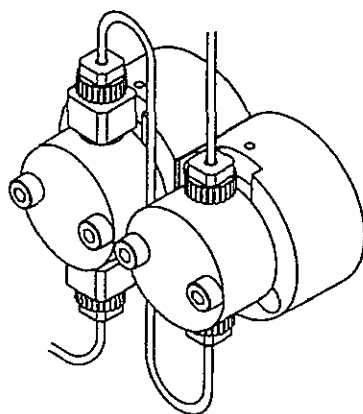

Figure 9.8 Remounting the tubing parts and the check valves
- (11) Remount the tubing parts and the check valves are in their original positions. See Fig. 9.8.